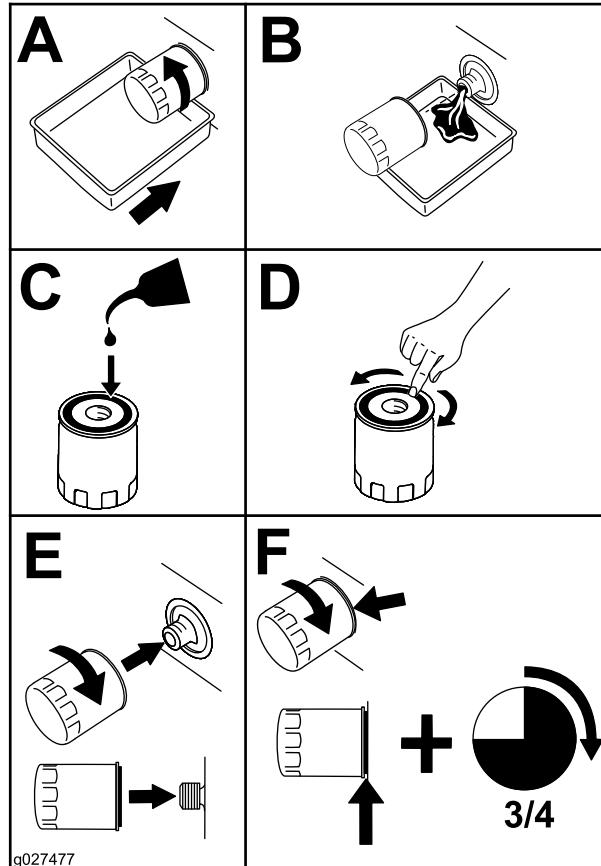

Figure 58
- Change the engine-oil filter (Figure 58).